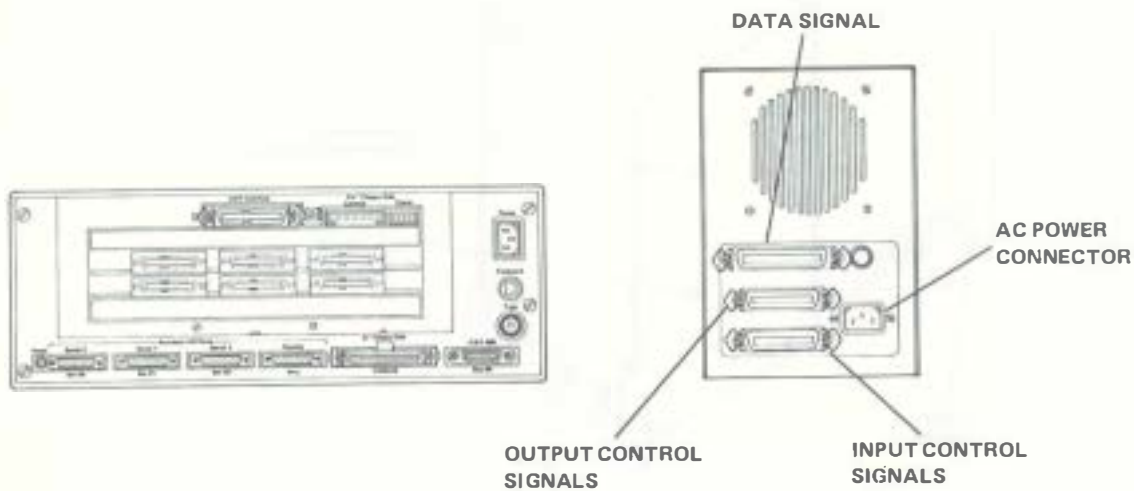

Figure 5-31. Hard Disk Drive Assembly External Connections
3. Disconnect the power cord and all other connectors on the rear of the disk drive assembly. See Figure 5-31.
6. Reconnect the power cord and all other connectors that were removed. See Figure 5-31.